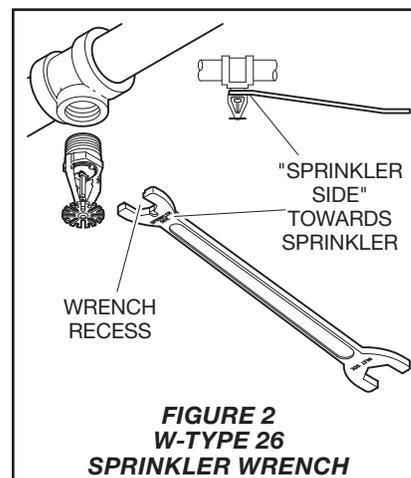

FIGURE 2
Note: Install the Model ESFR-34 Pendent Sprinkler in the pendent position (See Figure 2).
Step 2. Use only the W-Type 26 Sprinkler Wrench (See Figure 2) to install the Model ESFR-34 Pendent Sprinkler. Fully engage (seat) the wrench recess on the sprinkler wrench flats (See Figure 1) and wrench-tighten.